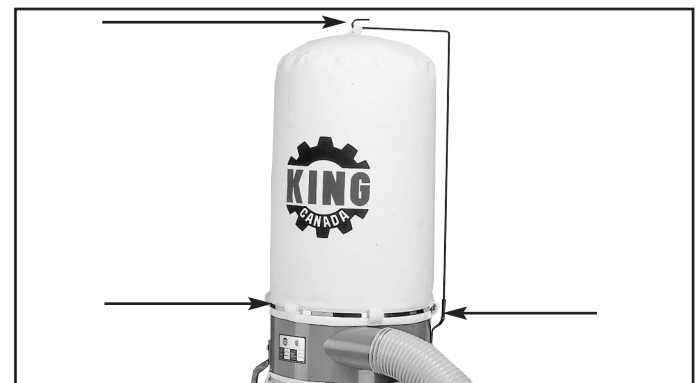

FIGURE 8
8. Insert bag hanger into hanger bracket and then hook top dust bag to hanger. Insert retainer strap through keeper straps and fasten to collector housing. Repeat this operation for the lower dust bag (Fig.8).